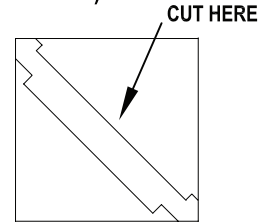

FIGURE 2
2. AFTER CUTTING SQUARE OPENING, CUT INSIDE PATTERN OUT OF SQUARE TEMPLATE. (FIGURE 2)